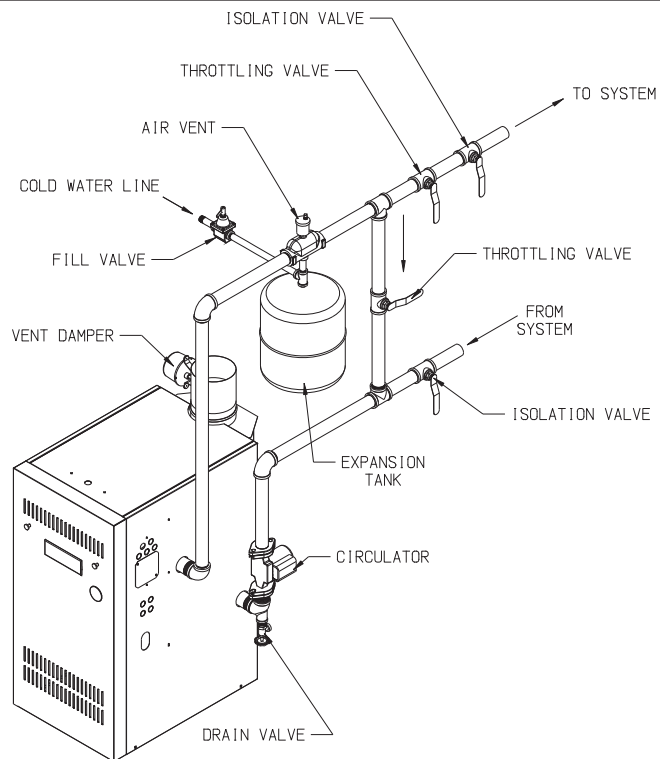

FIGURE 8.5: BOILER BYPASS PIPING
- 3) Large Water Volume Systems - The piping shown in Figure 8.5 will minimize the amount of time that the boiler operates with return temperatures below 120°F on these systems. A bypass is installed as shown to divert some supply water directly into the return water. The bypass pipe should be the same size as the supply. The two throttling valves shown are adjusted so that the return temperature rises above 120°F during the first few minutes of operation. A three-way valve can be substituted for the two throttling valves shown. If the circulator is mounted on the supply, the bypass must be on the discharge side of the circulator.